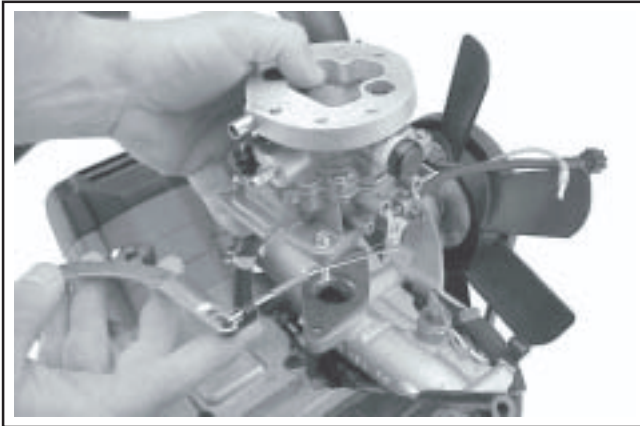

Figure 9-23. Removing Carburetor from Engine.
4. Remove the carburetor, throttle linkage and governor lever as an assembly. See Figure 9-23.